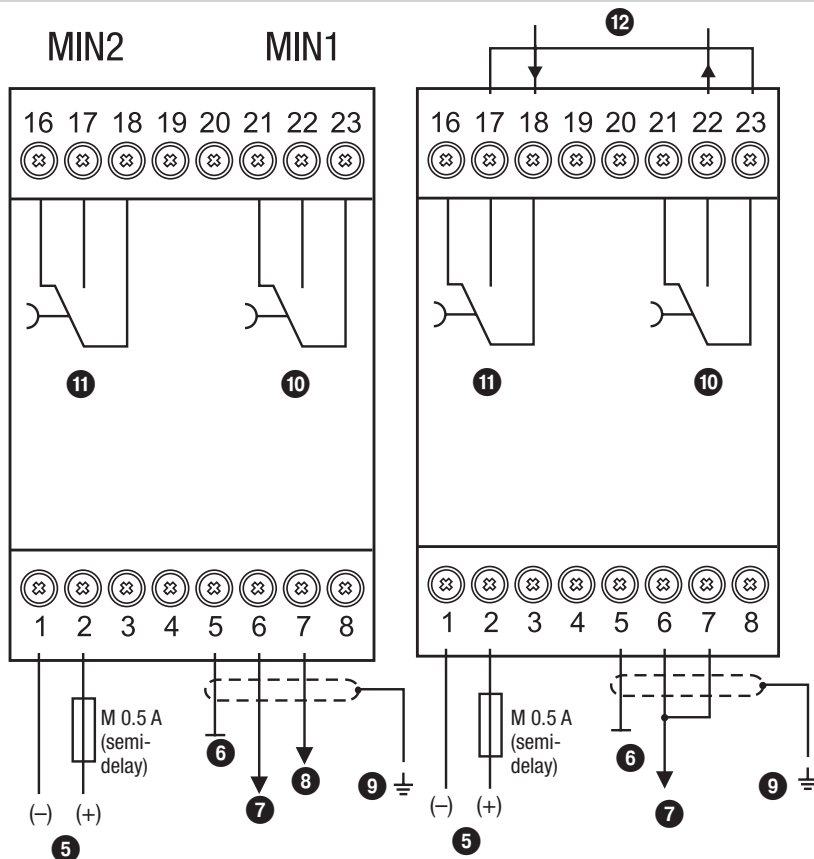

Fig. 3
Wire the upper terminal strip **①** (terminals 16-18, 21-23) according to the desired switching functions. If only one electrode rod is used please connect the terminals 17 and 23 (safety circuit) and the terminals 6 and 7 with a wire link. **Fig. 3**
Wire terminal strip in accordance with the wiring diagram. **Fig. 3.**